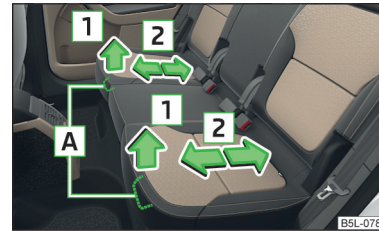

Fig. 60
- Pull lever **A** in the direction of arrow **1** and move the seat to the desired position in the direction of arrow **2** » Fig. 60.
- Push the outer rear seats towards the rear as far as they will go » Fig. 60 on page 71.